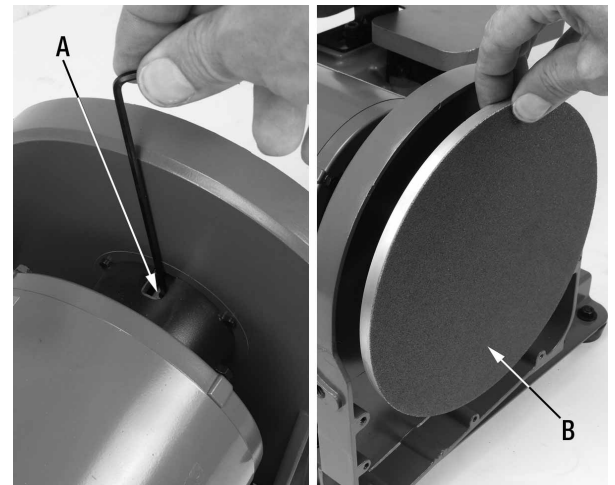

Figure 17
3. Rotate the aluminum disc until the locking set screw (A) Fig.17 is visible through the opening behind the disc housing. See Fig.17. If the set screw is not accessible from the opening, it might be needed to move the disc housing forward to gain access to the set screw.
4. Loosen set screw (A) Fig.17 and pull the aluminum disc (B) out of the disc housing.
6. Once you have completed the cleaning of the aluminum disc, slide aluminum disc all the way onto the motor shaft and retighten set screw (A) Fig.17.